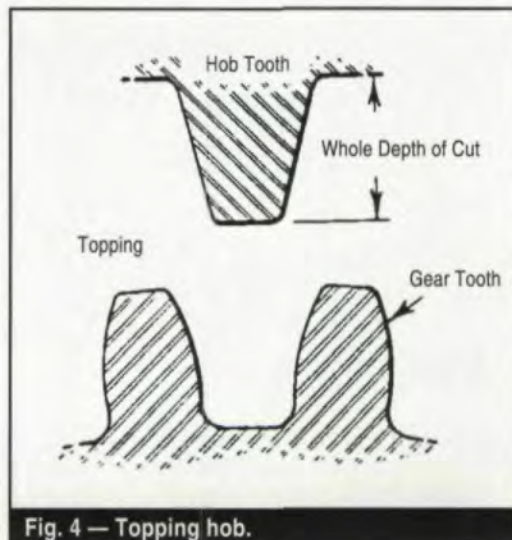

Fig. 4 — Topping hob.
**Topping.** Topping hobs cut the outside diameter of the part to finish size (Fig. 4). The outside diameter is held concentric to the pitch diameter. The resulting tooth thickness is held to a constant relation to the outside diameter. The tooth thickness of the gears can be easily verified by measuring the outside diameter of the part. The use of topping hobs can often result in a cost savings for the user. Finish-hobbed gears can be chucked on the outside diameter in subsequent operations for hole finishing. Their use also eliminates the need for an accurate finish-turning operation on the gear blank prior to hobbing.